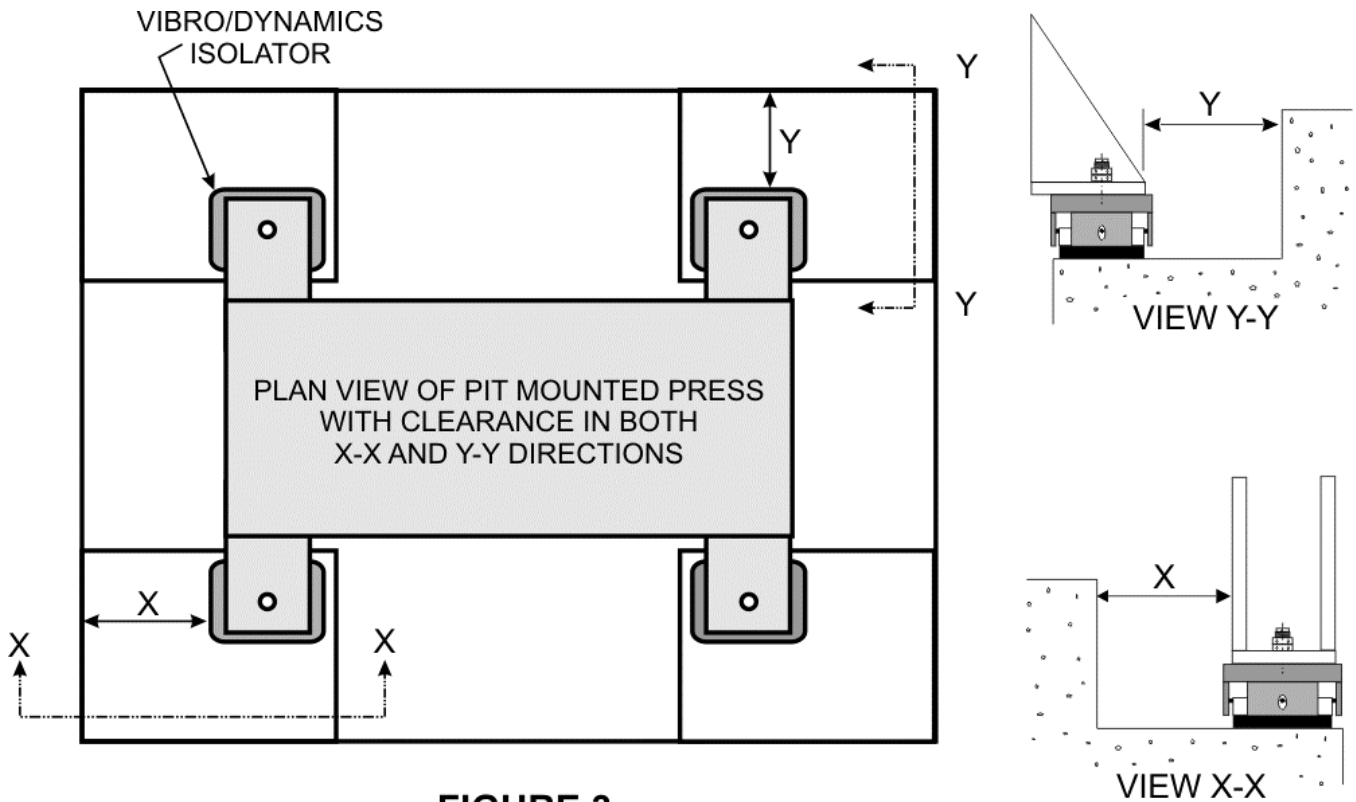

FIGURE 3
6. Clearance should be provided in either the X or Y direction to allow for the installation and removal of the isolator and access to make leveling adjustments to the isolator. See Figure 3 and Table 1. *Note: It may be possible to remove the isolator by moving it toward the center of the press and then into a pit, but providing clearance around the isolator is the absolute preferred method.*